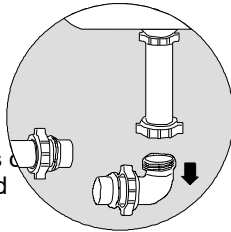

FIG. 8
2. Slip the nut and beveled waster over both ends of the cut tube, then insert the 3-way repair tee in the following manner: Loosen the nut on the horizontal waste L where it joins the vertical tailpiece. (See Fig. 8) Remove the short “ell” piece by pulling down the tailpiece. (Fig. 8), then, put the cut ends L into a tee, tilt the vertical end back up over the tailpiece and re-secure the nut. Rotate the tee so that the side outlet is facing straight up, then firmly tighten both nuts to a tee. (See Fig. 9)